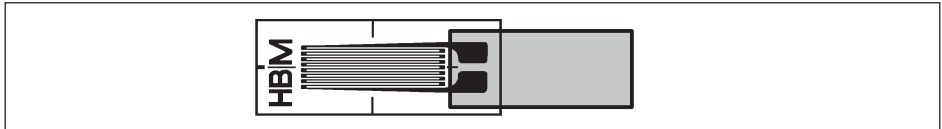

Fig. 6.3 Hinge-like connection for SGs without leads
- ▶ In strain gages without leads, create the hinge-like connection as shown in Fig. 6.3 (without additional solder terminals).